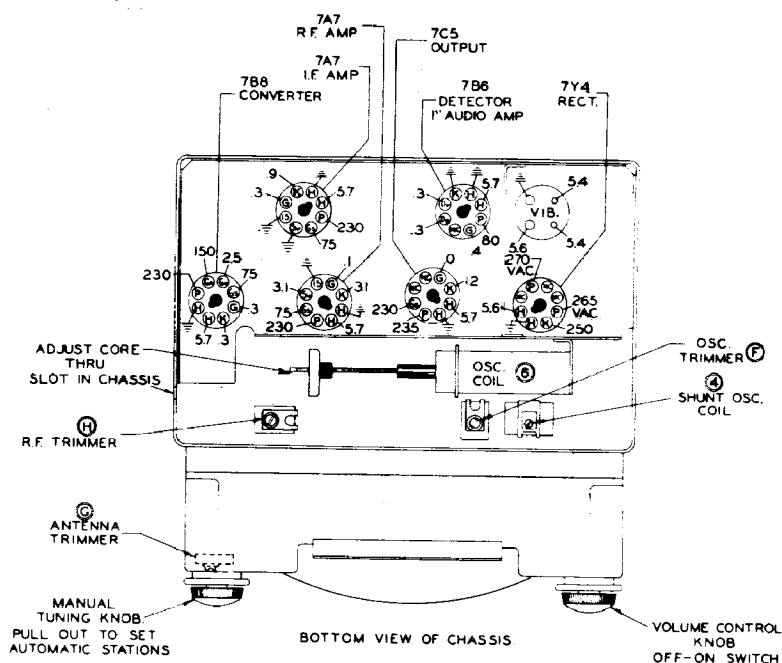

FIG. 8
Socket Voltagessee Figure 8
- 5—Set the oscillator trimmer (F—Fig. 8) at 1640 Kc.
- 6—Peak the R.F. and antenna trimmers (G and H—Fig. 8) for maximum output reading.
- 9—Adjust the oscillator core (6—Fig. 8) to scale at 1200 Kc.
- 12—"Rock in" the Shunt oscillator core (4—Fig. 8) for maximum output reading. (Same as rocking in the padder condenser on a ganged condenser receiver.)
Figure 8 shows the approximate voltages as measured with a 1000 ohm per volt meter measured between the socket terminals and the chassis. Volume control set at maximum with no signal. Battery Voltage—6.3.